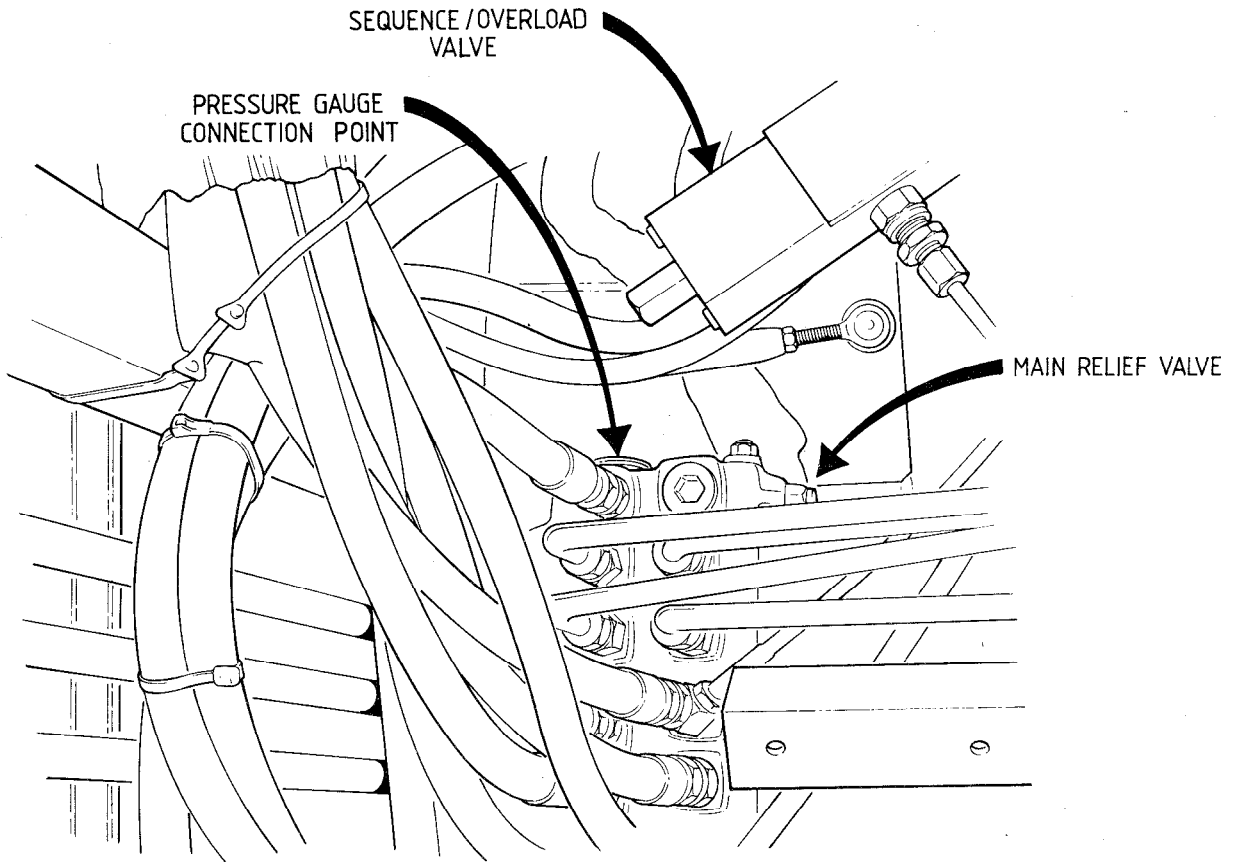

FIG 1 - VALVE BANK, PROTECTION COVER REMOVED
- a. Remove valve bank protection cover, refer to Fig 1 (cover removed).
- k. Remove the blanking plug on the end of the valve body, Fig 1 and fit the Pressure Gauge Connector, Item 3, Table 1.
- o. Adjust the Main Relief Valve (Fig 1), clockwise by approximately 1/4 turn. This is achieved by breaking the lead seal and turning clockwise the castellated nut on the Main Relief Valve twice at the rear of the Valve Bank. Take another Pressure Gauge reading by operating the Stabilizer Leg Valve Bank. Continue the procedure until the gauge reads 25.0 mPa.
- q. Break the lead seal and remove the cap from the Sequence/Overload Valve, Fig 1.